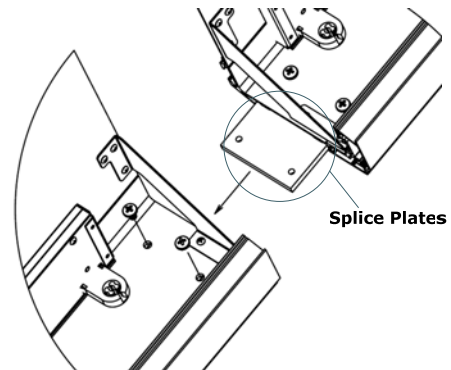

Figure 5
1. Begin by installing the splice plates in the ends of one section. **See Figure 5.**